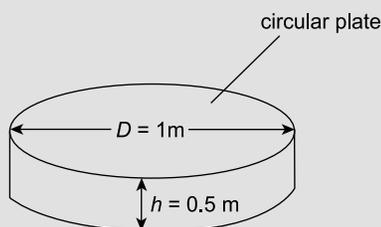

Figure 22.16 Circular cylindrical buoy
**Problem 16.** A circular cylindrical steel buoy, made from 10 mm thick steel plate, is of a hollow box-like disc shape, as shown in Figure 22.16. It is sealed off at its top and bottom by circular plates so that it is watertight. (a) If the external diameter of the buoy,  $D$ , is 1 m and its height,  $h$ , is 0.5 m, determine its weight,  $W$ , given that the density of steel,  $\rho_S = 7860 \text{ kg/m}^3$ . (b) At what depth,  $H$ , will the buoy float if the density of water,  $\rho_W = 1020 \text{ kg/m}^3$ ? (c) What is its  $GM$ ? Take  $g$  to be  $9.81 \text{ m/s}^2$